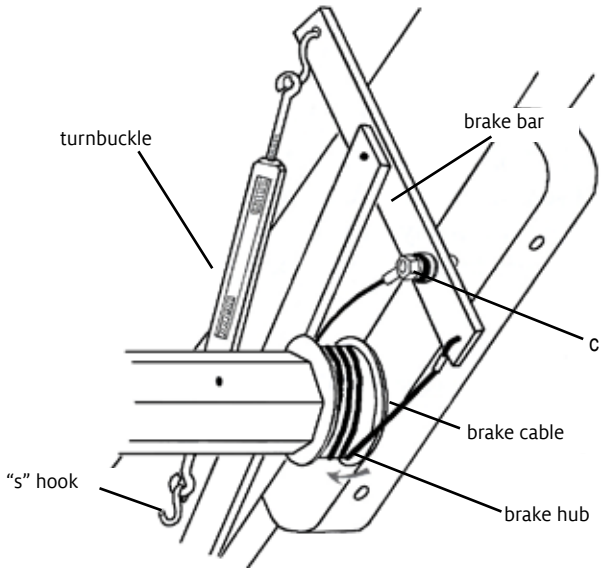

FIGURE 5
**12.** Lay the double warp beam brake pedal assembly out on the floor so that the brake release pedal, the brake release upright and the brake bar are aligned as in figure 5.